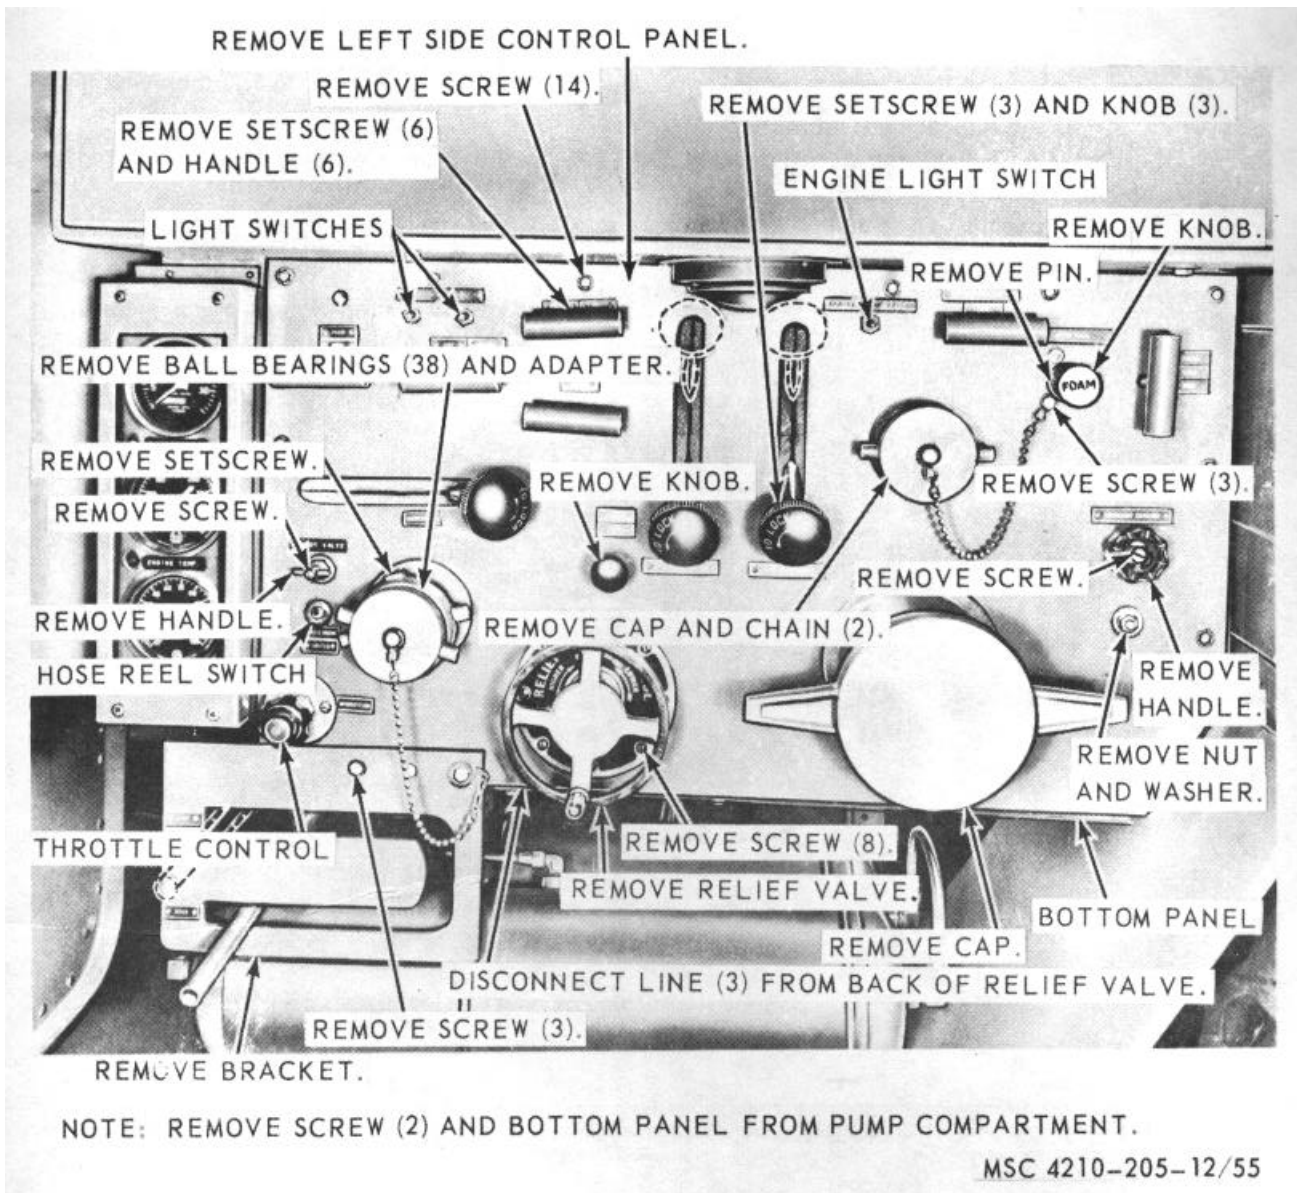

Figure 55. Left side control panels, removal and installation.
- (1) Remove the throttle control (para. 76).
- (2) Remove the hose reel switch (para. 102).
- (3) Remove the engine dome and pump gage control panel lights switch (paras. 99, 100, and 101).
- (4) Refer to figure 55, and remove the left side control panel and bottom panel from the pump compartment.
- (1) Refer to figure 55, and install the left side control panel and bottom panel on the pump compartment.
- (2) Install the engine, dome and pump gage control panel light switch (paras. 99, 100, and 101).
- (3) Install the hose reel switch (para. 102).
- (4) Install the throttle control (para. 76).